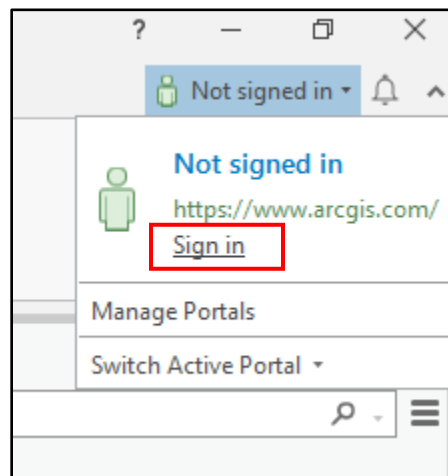

Figure 2
3. Open ArcGIS Pro and sign in to AGOL using your GeoDOT (<https://massdot.maps.arcgis.com/>) account information (Figure 2).